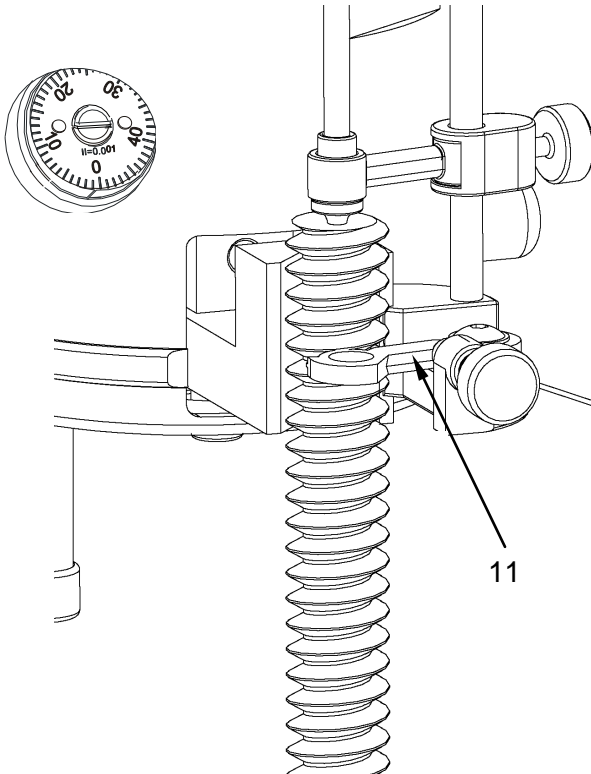
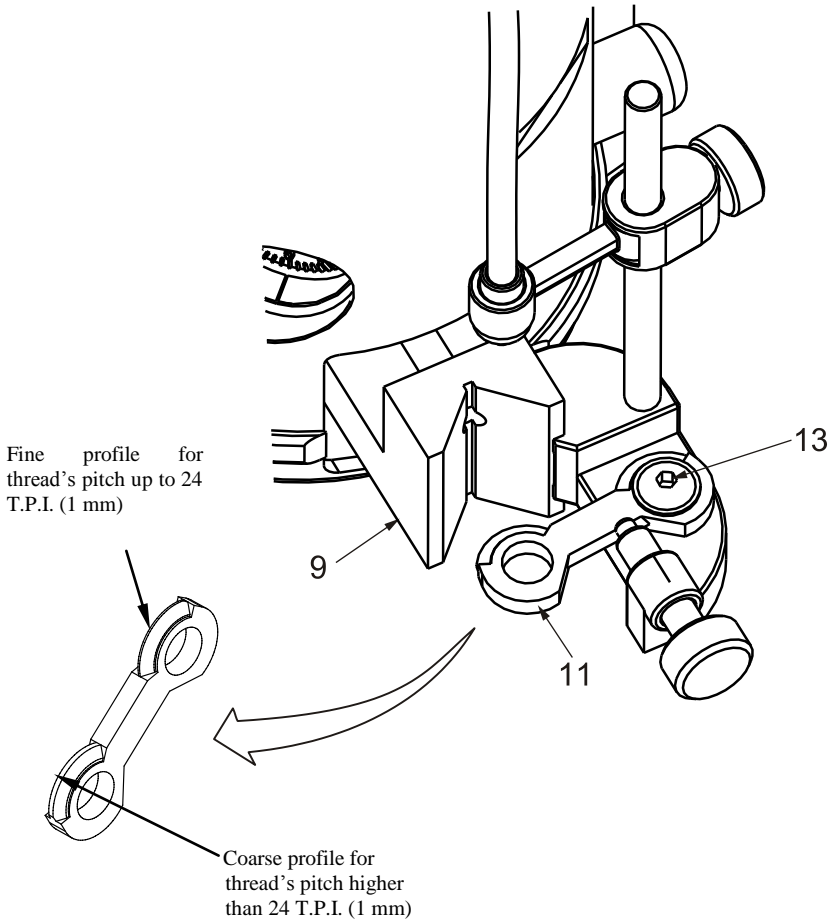

Figure 5. Blade Engaged in Electrode's Groove
Figure 6. Blade Adjustment to fit Thread Pitch
Blade (11) is designed to hold the electrode in place when engaged in one of the electrode grooves (see Figure 5). The advantage of holding the electrode in this manner is that, it can be replaced with a new one and still know for certain that there will be no cross threading. The new threading may be deeper or shallower than the original one. Yet, as long as blade (11) penetrates an electrode's groove, there will be no cross threading. Blade (11) is provided with two profiles to ensure suitable engagement in electrode's groove (see Figure 6).
- A. Release screw (13), release blade (11) and reverse it, making sure that the appropriate profile faces the electrode holder (9). See Figure 6.